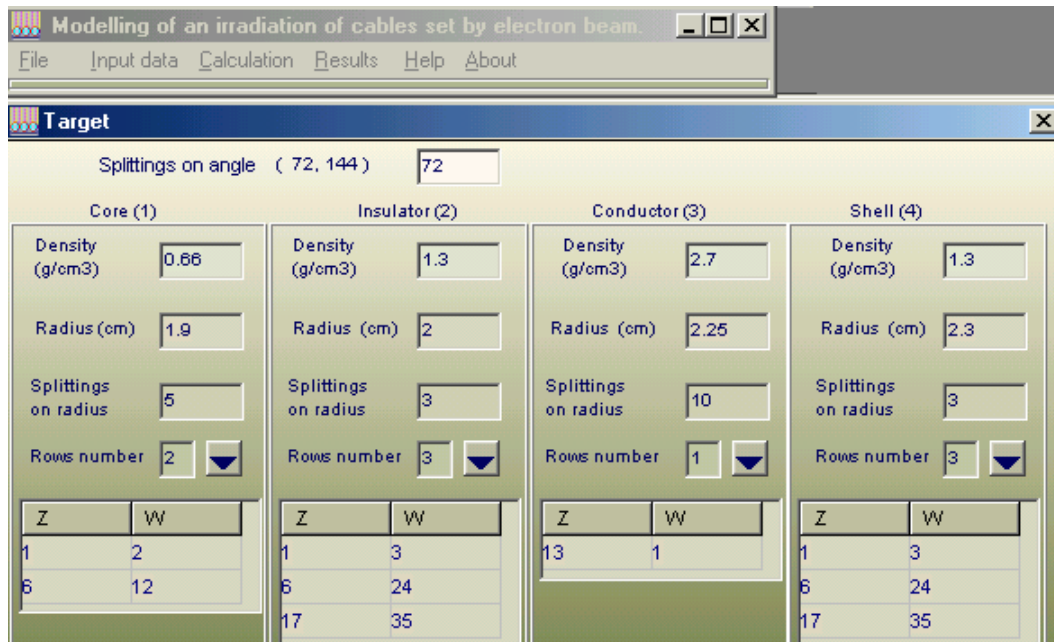
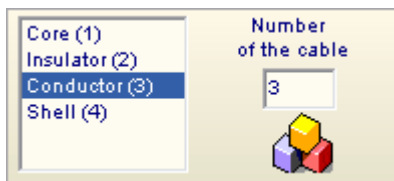

Fig.3. Frame “Target” to enter input data for set tubes/cables irradiated with EB.
Fig.10. Frame for selection of the cable construction element.
The frame “Target” will be opened. (See Fig.3)
- Select the cable construction element, Click by a tick the **Core, Insulator, Conductor or Sell**. See Fig.10
- Click the button "**Fig. 3 cubes**". See Fig.10